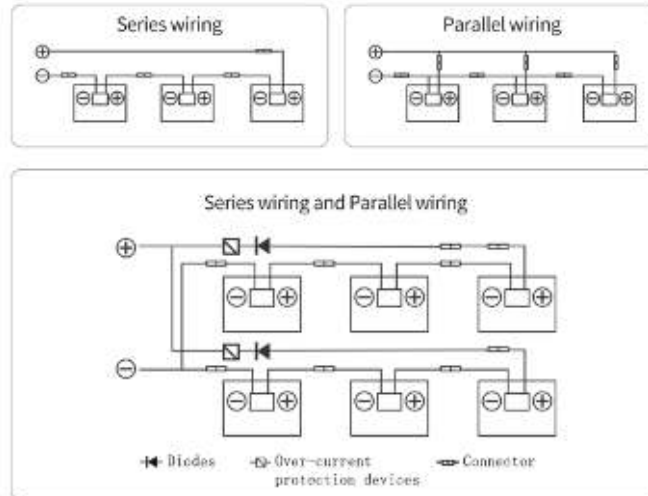

Figure 6 Electrical diagrams of series and parallel wiring
- When modules are connected in series, the final voltage is sum of the single module. When modules are connected in parallel, the final current is sum of the single module, as shown in Figure 6. Modules with different electric performance models cannot be connected in series.